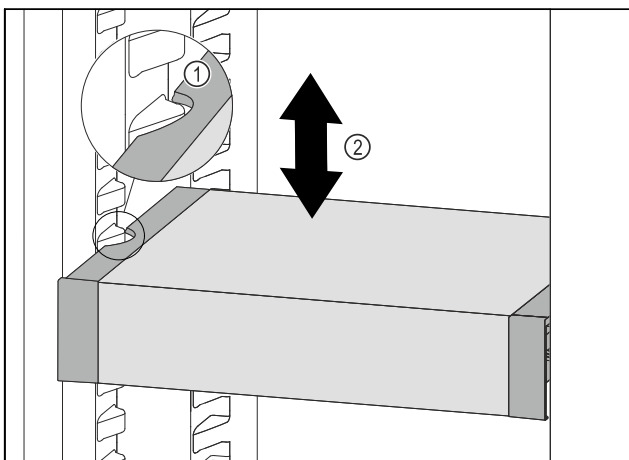

Fig. 195
- ▶ Pull VarioSafe forwards until the recesses in the side of the VarioSafe are at the level of the support rib in the refrigerator compartment. Fig. 195 (1)
- ▶ Move VarioSafe up or down in the refrigerator compartment until the desired height is reached. Fig. 195 (2)